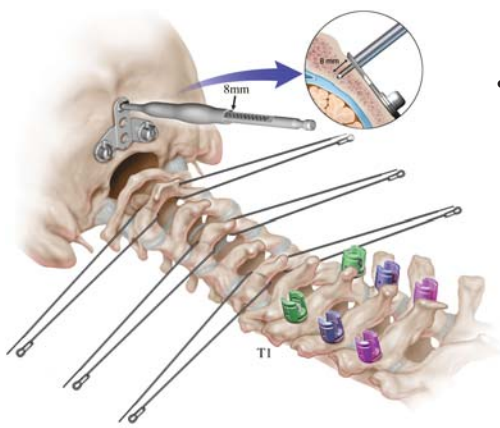

Figure 14
- Confirm depth of the pilot hole with the Depth Gauge (Figure 14).